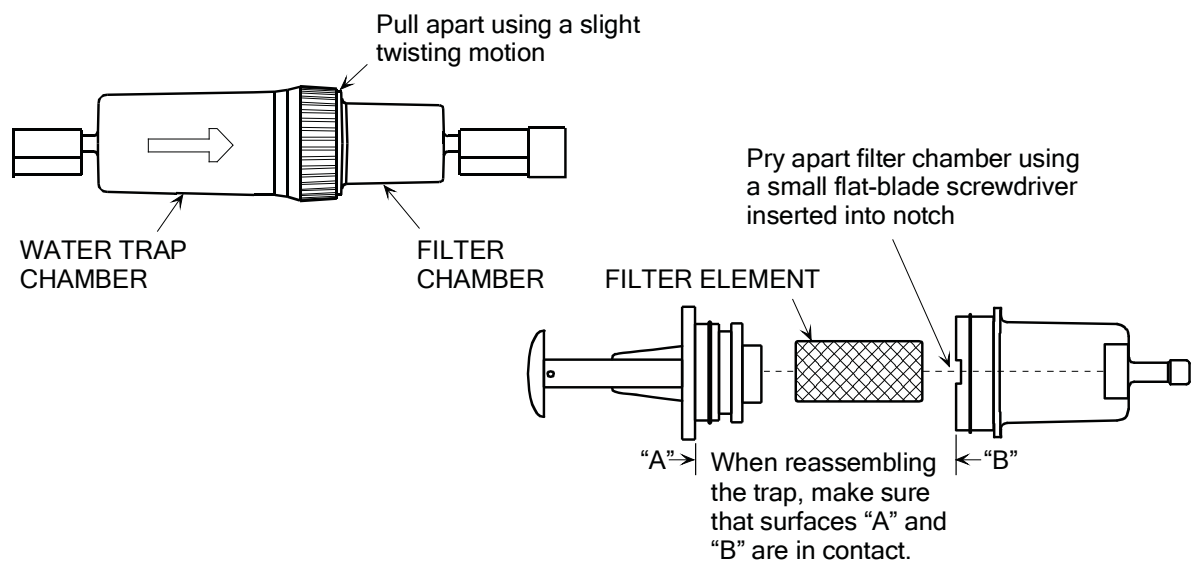

Figure 5-3. Water Trap / Filter Assembly
1. Disassemble the trap (see Figure 5-3).